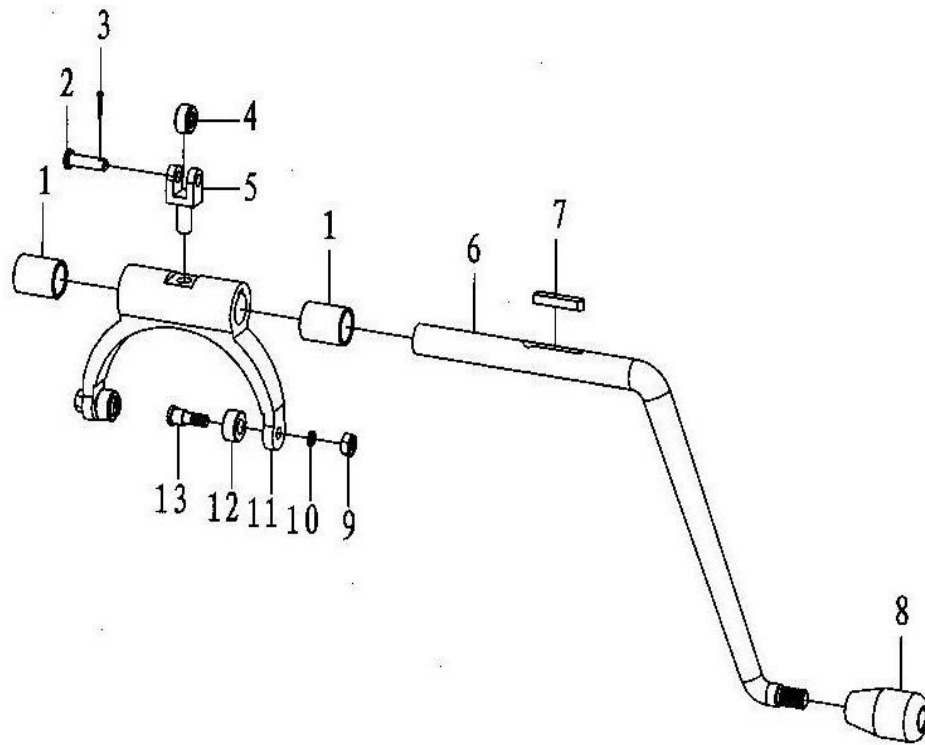

Fig 9
9.5 Gear shifting assembly(Fig.9,Table 5)